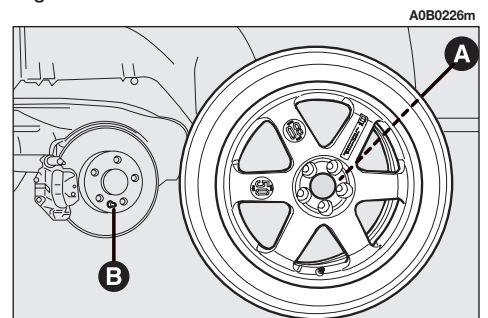

fig. 7
- Install the spare wheel by matching one of the holes (A-fig. 7) with the corresponding pin (B-fig. 7).
– Fit a normal wheel bearing in mind that the pin (**B-fig.7**) must match one of the holes (**A-fig.7**).
– Tighten the bolts following the order previously described for the compact spare wheel **fig. 7**.
– Lower the car and remove the jack; then tighten the bolts as described previously for the spare wheel (**fig. 7**).